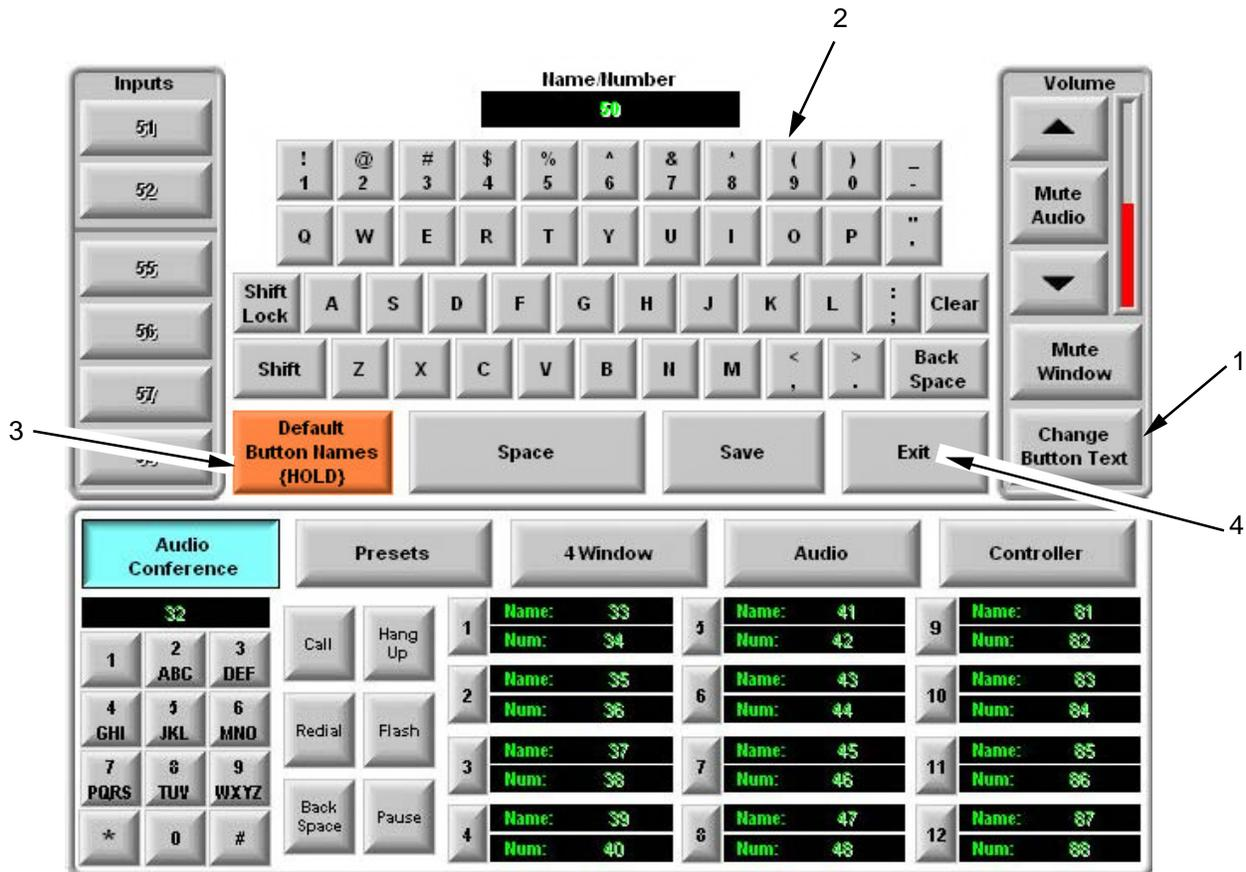

Figure 18. Restore Default Text.
1. Select **Change Button Text** button (Figure 18, Item 1) to activate the onscreen keyboard (Figure 18, Item 2).
2. Select and hold the Default Button Names (HOLD) button (Figure 18, Item 3) for five seconds.